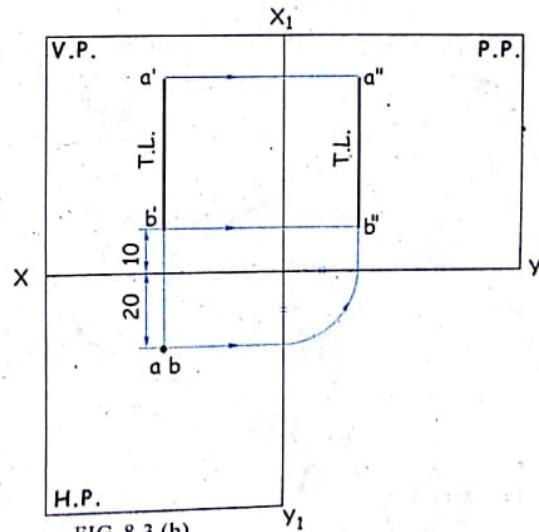

FIG. 8.3 (b)
1. The end points A and B of line AB are projected on the V.P., the H.P. and the P.P. giving the projections F.V. ($a'b'$), T.V. (ab) and S.V. ($a''b''$) as shown in figure 8.3 (a).